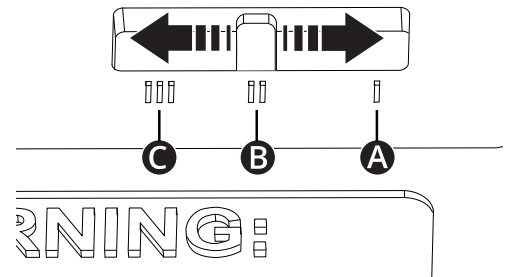

Figure 7. Slide the switch to the correct position.
8. Use the included configuration tool to change the configuration by sliding the switch to the correct position for the batteries intended for the power wheelchairs, see figure 7.